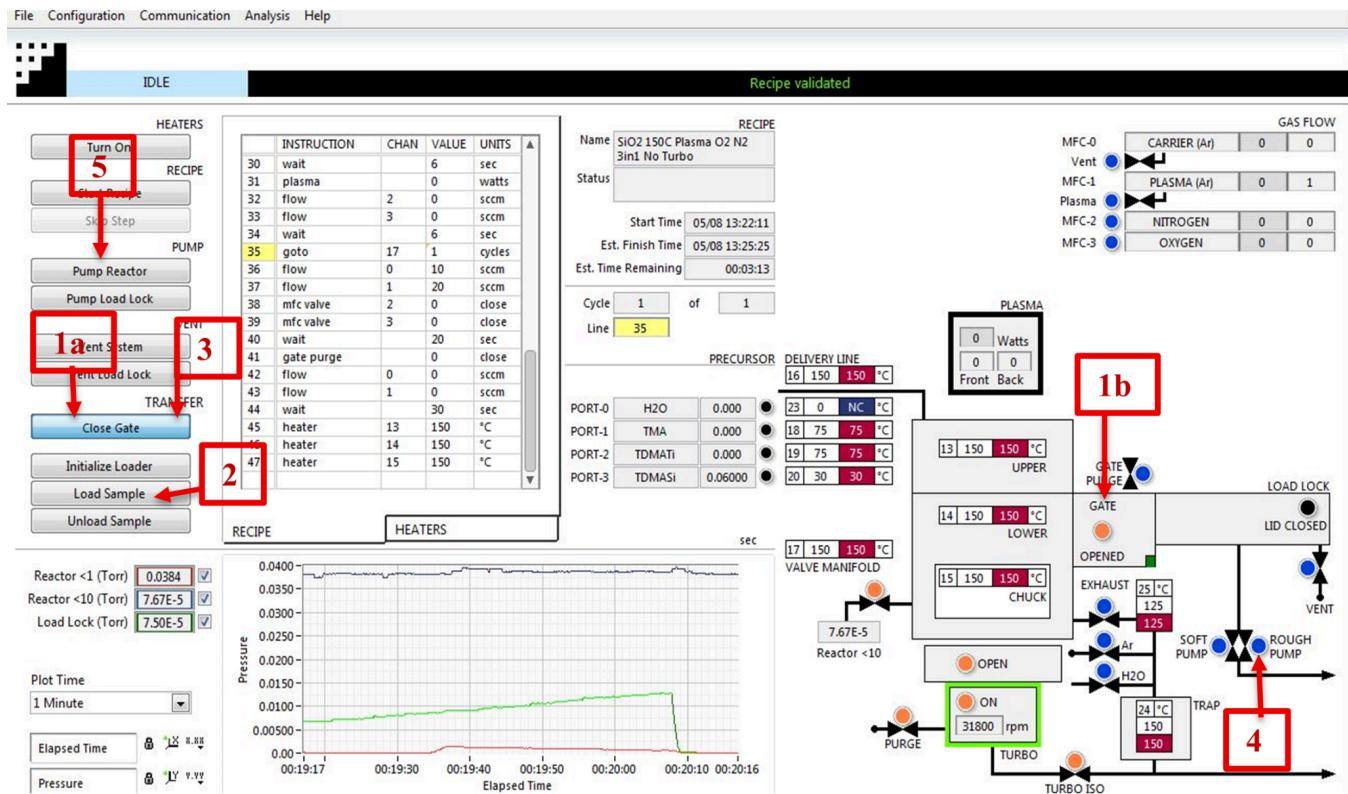

Figure 6, Loading and pumping reactor sequences
1. Open the gate valve by clicking either the **Open Gate** tap or **BLUE** button (Blue color means Closed and Orange means Open) [step **1a** or **1b**]. (**Figure 6**)
- ◆ If the pressure graph during your recipe does not look like the graph in Figure 6.